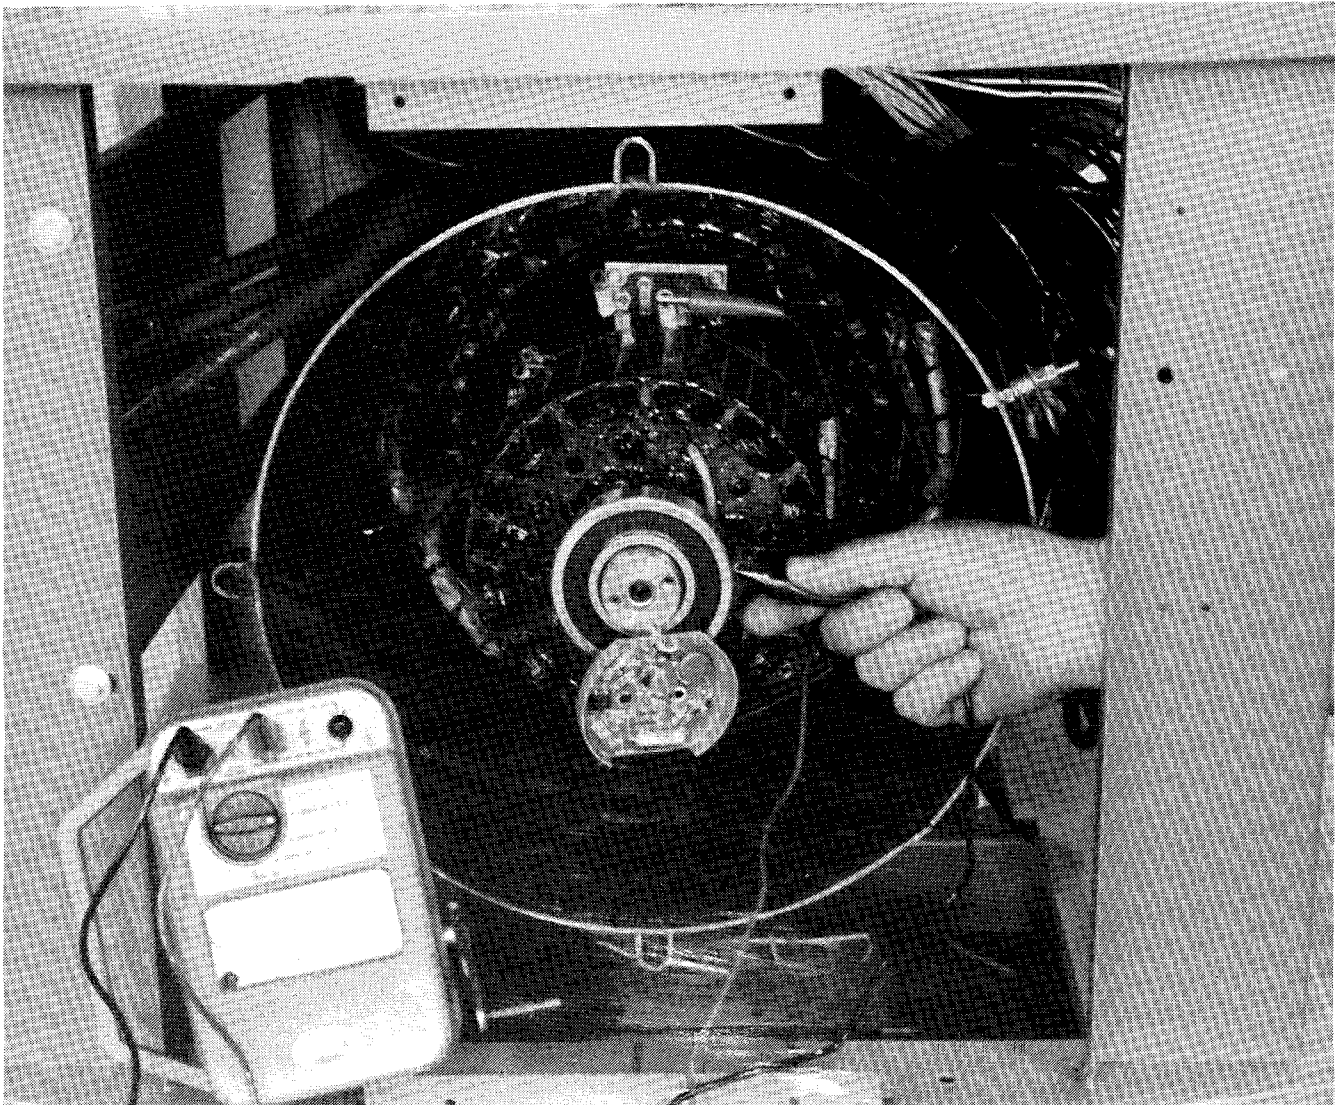

Figure 4-16. High Voltage Test
5. Using a megohmmeter, apply 500 Volts DC to rotor shaft and A1 or A2 lead (one-piece FR activator) or either AC lead (split FR activator). See Figure 4-16. (Follow the instructions of the megohmmeter manufacturer when performing this test.) A reading of approximately 500K ohms (1/2 megohm) and higher indicates the field winding is good. A reading of less than 500K ohms (approx.) indicates deterioration of winding insulation and possible current flow to ground. Repair or replacement of the rotor is necessary.